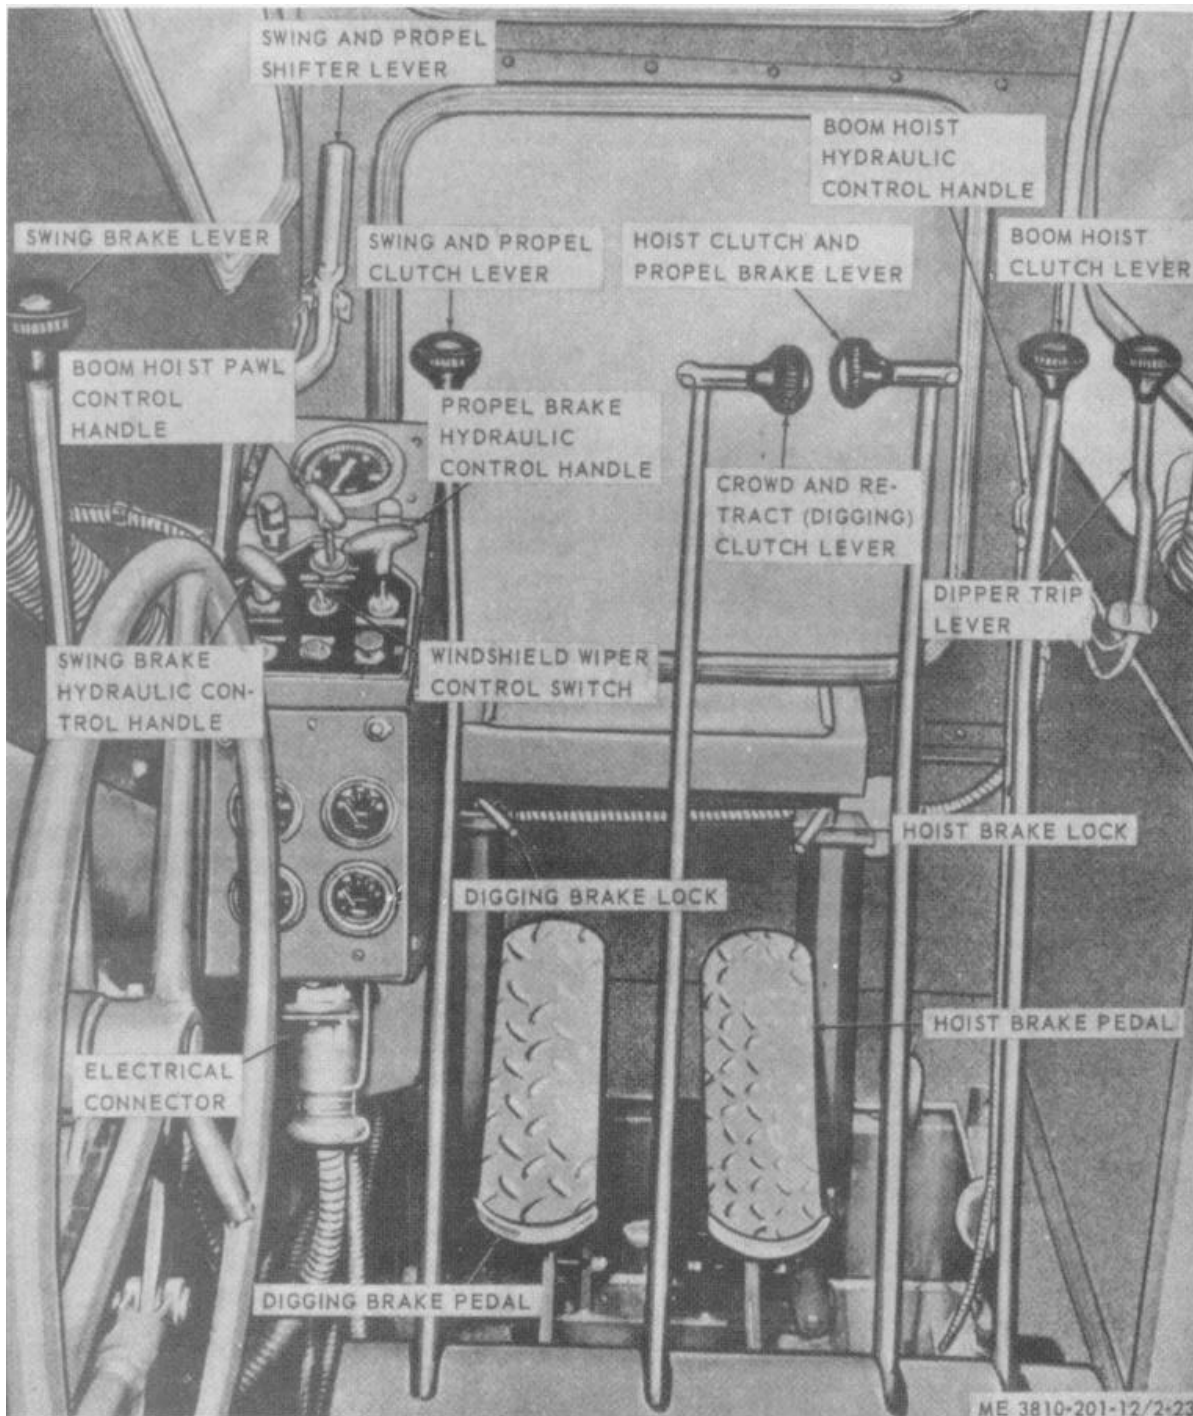
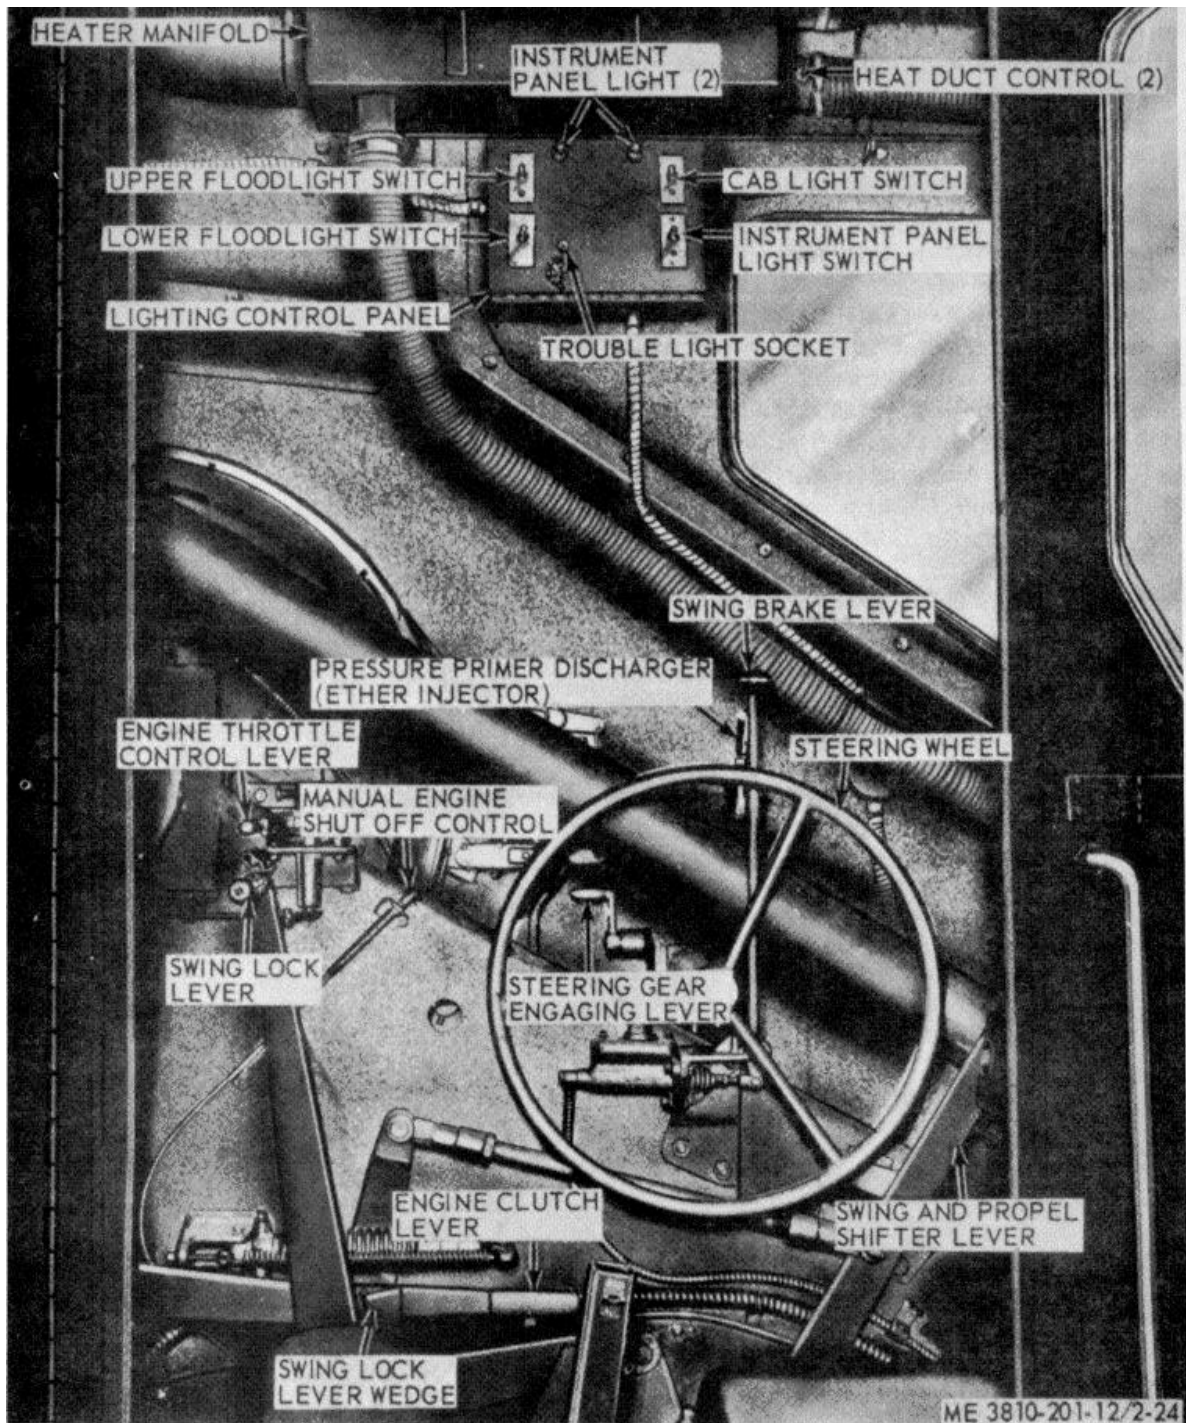

Figure 2-23. Crane operating control handles and levers.
Figure 2-24. Crane, engine and lighting controls.
d. *Boom Hoist Pawl Control Handle.* The boom hoist pawl control handle (fig. 2-23) enables operator to disengage pawl from boom hoist drum ratchet. Push down to engage, and turn one quarter turn clockwise to lock the control. To release pawl from the ratchet, raise boom slightly by pulling boom hoist lever toward operator, turn handle one quarter turn counterclockwise, then pull up on handle.
e. *Swing Brake Hydraulic Control Handle.* This handle (fig. 2-23) locks swing brake. To apply swing brake, push swing brake lever (fig. 2-24) forward, then push down on hydraulic control handle and turn it 1/4 turn clockwise to lock. To release swing brake, turn hydraulic control handle 1/4 turn counterclockwise then pull up.
f. *Propel Brake Hydraulic Control Handle.* This handle (fig. 2-23) locks propel brake. To apply, push hoist clutch and propel brake lever away from operator, then push down on hydraulic control handle and turn 1/4 turn clockwise to lock. To release propel brakes, turn the handle counterclockwise one quarter turn and pull up.
q. *Pressure Primer Discharge (Ether Injector) Winterized Model 855BG2 Only.* Located on left side pane behind steering wheel (fig. 2-24), the ether injector forces ether vapor into air intake manifold while trigger is held down, as an aid to starting in cold weather (para 2-25). Release pressure on trigger to stop ether vapor entry (after engine is running).
s. *Swing Lock Lever Wedge.* This wedge (fig. 2-24) must be installed when swing lock is disengaged (ad below), to prevent swing lock from engaging while crane-shovel is in operation.
t. *Instrument Panel Light Switch.* This switch (fig. 2-24), mounted on lighting control box, is a two position toggle switch that controls all four instrument lights for ON-OFF function.
box (fig. 2-24), this two position toggle switch turns interior cab lights ON and OFF.
v. *Upper Floodlight Switch.* Located on lighting control box (fig. 2-24) this two position toggle switch turns the dual floodlights ON and OFF. Floodlights are mounted on top front of cab, and act as headlights when crane is traveling.
w. *Lower Floodlight Switch.* Located on lighting control box (fig. 2-24) this two position toggle switch turns single floodlights, mounted on either side of boom foot, ON and OFF.
z. *Dipper Trip Lever.* This push-pull type lever (fig. 2-23) mounted on right side of operator's compartment,
aa. Engine Throttle Control Lever. Located on left compartment panel at rear of operator's seat (fig. 2-24) is used to set engine speed. Move forward to increase speed, back to idle.
ab. Manual Engine Shut Off Control. Located below throttle control lever (fig. 2-24) this control shuts off fuel flow to injector pump. Pull to stop engine (para 2-11), then after engine stops, push in.
ac. Steering Gear Engaging Lever. Located behind steering wheel (fig. 2-24), this lever should always be up as illustrated, except when steering wheel is to be used. Moving lever downward engages steering wheel with steering gear.
ad. Swing Lock Lever. This lever (fig. 2-24) is a "trigger lever" type control for locking machine so it will not swing during transportation, or prolonged storage. Lever is illustrated in the unlocked position. To lock, remove wedge; grasp trigger lever and squeeze together while moving lever forward. (It may require swinging machinery deck a little left or right before the lock will engage ring gear). Let wedge hang on its chain.
ae. Swing Brake Lever. Located between steering wheel and pressure primer discharger (fig. 2-24), push this lever forward to apply hydraulic pressure to swing brake. To lock the swing brake, push lever forward and set brake, then push swing brake hydraulic control handle in and turn one quarter turn clockwise.
af. Swing and Propel Shifter Lever. This lever, located at left of steering wheel (fig. 2-24) and along side instrument control stand, shifts motive power to propel or swing. Move shifter lever fully forward to travel machine, fully to the rear to swing it.
ag. Hoist Brake Lock. Turning this lever to the left (fig. 2-23) (after applying hoist brake) will lock hoist brake in applied position. Move right to release.
ah. Digging Brake Lock. Moving this lever to right (fig. 2-23) after applying digging brake, will lock digging brake in the applied position.
ai. Digging Brake Pedal. This pedal (fig. 2-23) located on floor in front of lever stand, near instrument control stand, applies brake to left hand or digging drum.
aj. Hoist Brake Pedal. Located on floor in front of lever stand to right of digging brake pedal (fig. 2-23), this pedal applies brake to right hand or hoist drum.
ak. Swing and Propel Clutch Lever. This lever (fig. 2-23) when used in conjunction with swing and propel shifter lever (af. above) will swing or propel the machine. With swing shifter lever pulled back in swing position, pull swing clutch lever toward operator to swing right, push toward front to swing left. With propel shifter lever moved forward in propel position, push, propel clutch lever forward to travel forward, or pull toward operator for reverse.
al. Crowd (Digging) and Retract Clutch Lever. This lever (fig. 2-23) is a push-pull type lever which rotates left hand (digging) crowd drum. Pull toward operator to wrap cable on the drum. Push away from operator to run cable off drum (when planetary pinions are installed). With shovel front end attachment and sprocket installed, pull lever toward operator to crowd shovel into bank, push lever away from operator to retract dipper from bank after it is loaded.
am. Hoist Clutch and Propel Brake Lever. This lever (fig. 2-23) when pulled toward operator engages clutch on hoist drum and wraps cable on drum. When this lever is pushed away from operator, it applies the propel brake. To lock propel brake in applied position, push down on propel brake hydraulic control handle (e above) and turn clockwise.
an. Boom Hoist Clutch Lever. This lever (fig. 2-23) located at extreme right of lever stand, when pulled toward operator, will wrap cable on boom hoist drum and raise boom (or auxiliary gantry, when used with backhoe). Push this lever away from operator to release boom hoist brake and allow boom to lower by gravity. Return lever to neutral position to set boom hoist brake and hold boom in new position.
ao. Boom Hoist Hydraulic Control Handle. This handle (fig. 2-23) must be squeezed toward boom hoist clutch lever to close the pressure retaining valve connected to boom hoist hydraulic line and lock hoist. Clutch lever can then be pumped (moved to and from operator more than once), to engage boom hoist clutch more firmly on the drum.
aq. Engine Clutch Lever. This lever (fig. 2-23), located at lower left rear of operator's seat between swing lock lever and cab left side panel, is a pull-up, push-down type lever, that engages or disengages engine from machinery. Pull up to engage. Push down to disengage.
at. Heat Duct Controls (Winterized Units Only). These controls (fig. 2-24) located on manifold, are used for changing flow of heated air through ducts.
(1) Perform required preventive maintenance checks and services (para 3-6).
(2) Insure that all brakes are set (para 2-8) and that engine clutch lever (fig. 2-24 and para 2-8) is disengaged.
(1) Lower load until it rests on ground.